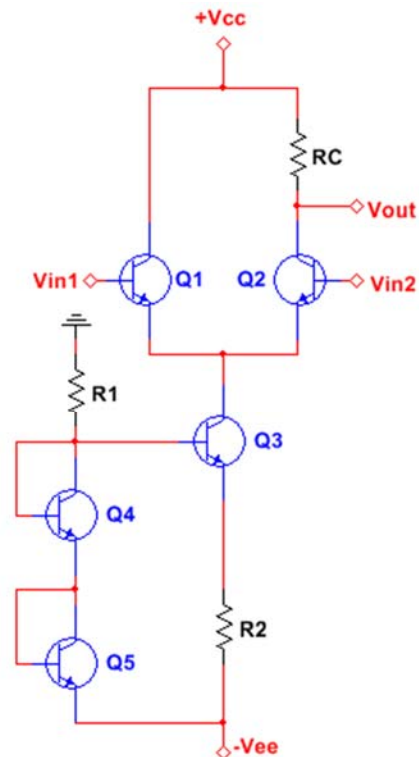

Fig. 6: Problem 8
- 8) Design a differential amplifier with $A_d = 100$ (slightly higher is OK) and $Z_{IN} \geq 10 \text{ k}\Omega$. The power supplies are $V_{CC} = V_{EE} = 12 \text{ V}$. As shown in Fig. 6, five transistors are used. What madness is this? A diode can be made by shorting together the base and collector of a transistor. This technique is commonly used in integrated circuits. Suppose all transistors come from a single LM3046 chip, and assume “typical” LM3046 parameters.